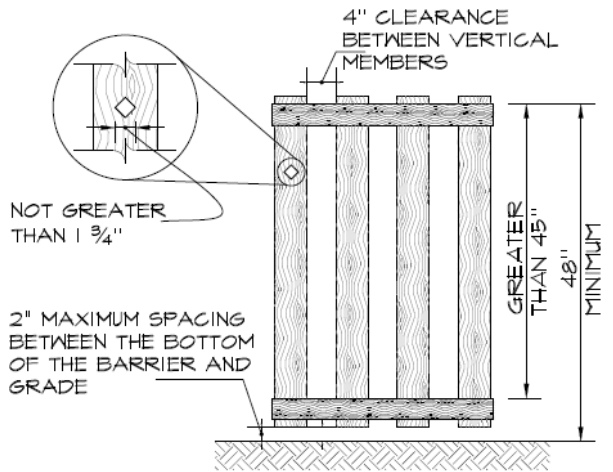

Figure 4
2. Where the barrier is composed of horizontal and vertical members and the distance between the tops of the horizontal members is *45 inches or more*, spacing between vertical members shall not exceed 4 inches. Where there are decorative cutouts within vertical members, spacing within the cutouts shall not exceed $1\frac{3}{4}$ inches in width. See Figure 4.